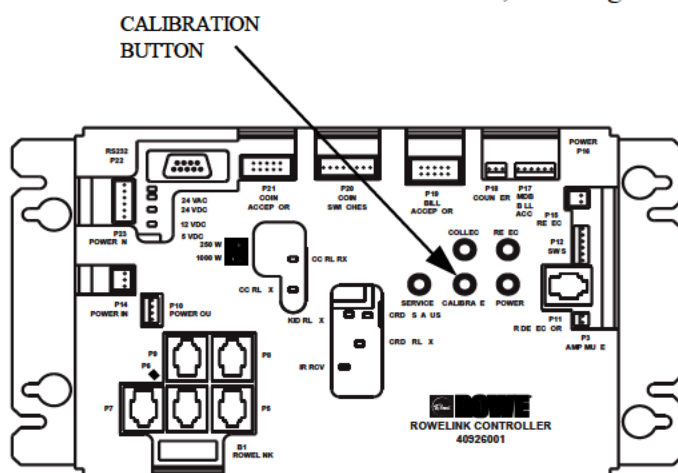

FIGURE 2-3
1. Press the “Calibration” button on the Rowelink Controller (see figure 2-3). Press the button in once to launch the calibration program. This will override the application while the program runs. See figure 2-4 for a picture of the calibration program interface.